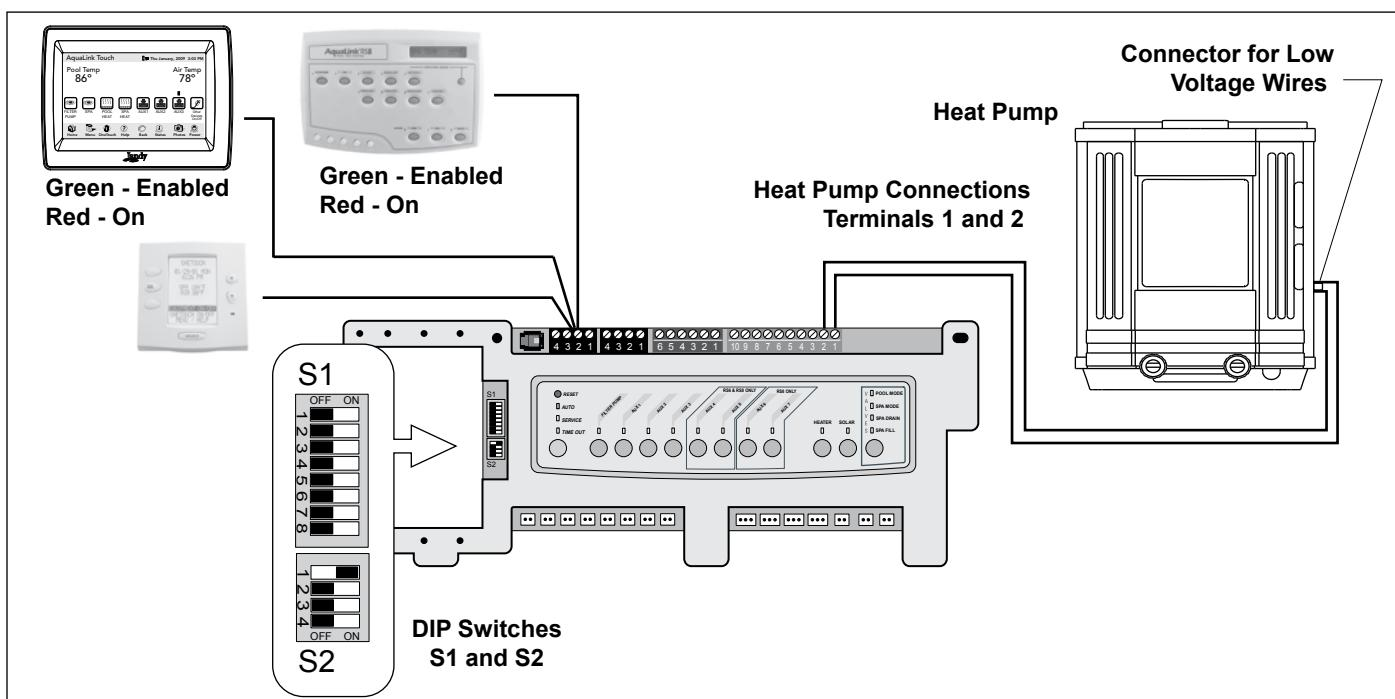

Figure 13. AquaLink RS to EE-Ti Heat Pump
- Connect two (2) wires to the AquaLink RS green 10-pin terminals 1 and 2.
- Put DIP S2-1 (pin #1 of the 4 position DIP switch) into the ON position (see Figure 13).